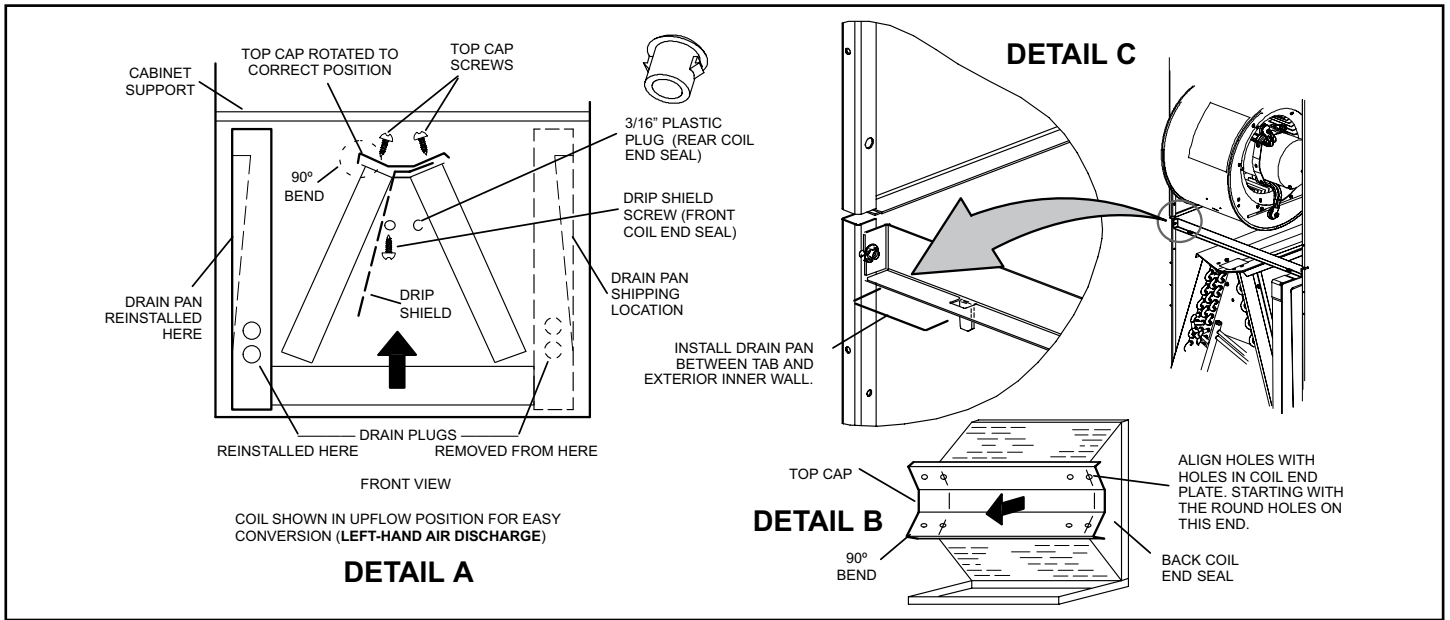

Figure 12. Field Modification for Left-Hand Discharge
5. Remove screws from top cap. Remove drip shield screw located in the center of the back coil end seal as illustrated in Detail A in Figure 12.
8. Rotate top cap 180° front-to-back and align with unused screw holes. Holes must align with front and back coil end plates (see Detail B in Figure 12). The top cap has a 45° bend on one side and a 90° bend on the other. **The 90° bend must be on the same side as the horizontal drain pan** as illustrated in Detail A in Figure 12.